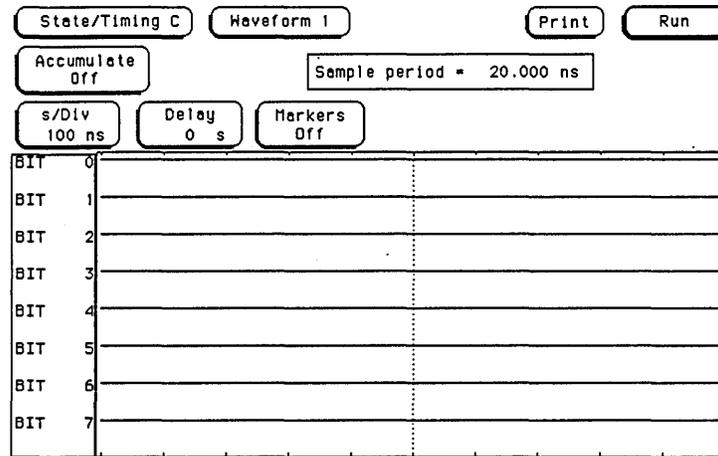

Figure 3-50. Waveform Screen
6. Touch Run. Data displayed on Waveform screen will be all high for pod under test as in figure 3-50.